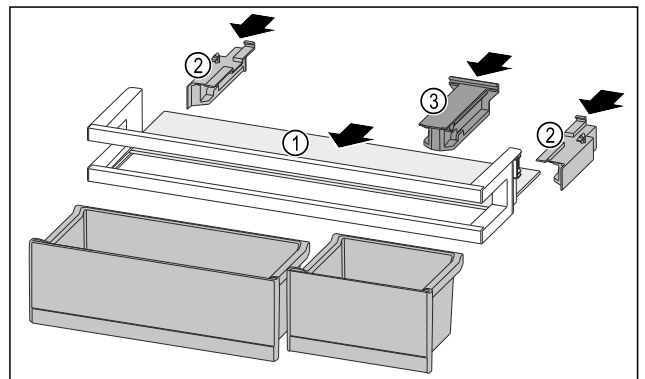

Fig. 113
- Push the shelf Fig. 113 (1) into the side recesses.
- Insert the side parts Fig. 113 (2).
- Insert the holding part Fig. 113 (3).